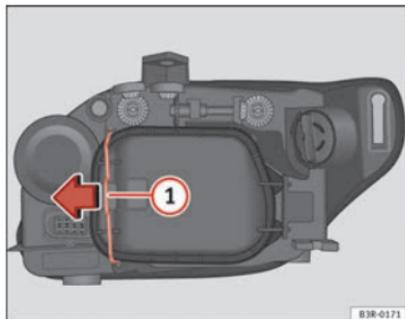

Fig. 197 Dipped beam headlights
Although it is not necessary, previously remove the rigid cover ⇒ Fig. 197 for easier turn signal bulb changes.
- Move the brace ⇒ Fig. 197 ① in the direction of the arrow and remove the rigid cover, separating the brace side and then removing the two tabs from the other end of the cover.